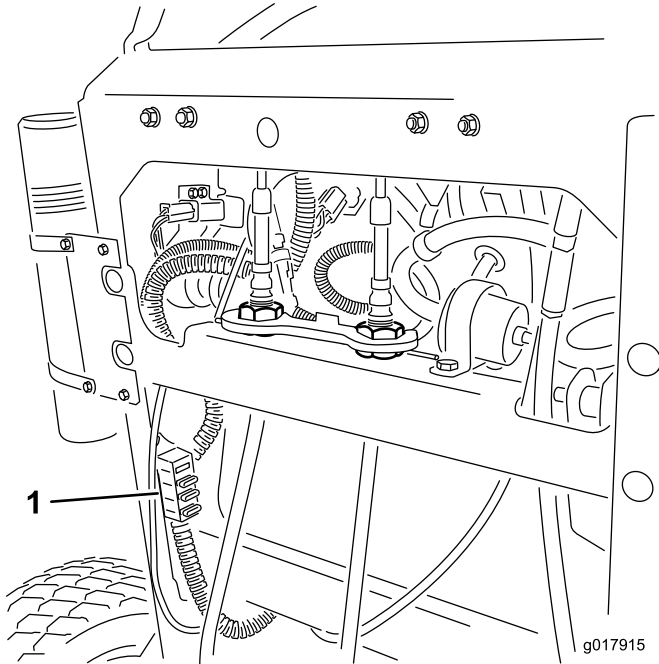

Figure 55
2. Pull out on the fuse to remove or replace it (Figure 55).
Note: Ensure that the correct-size fuse is installed Figure 55.